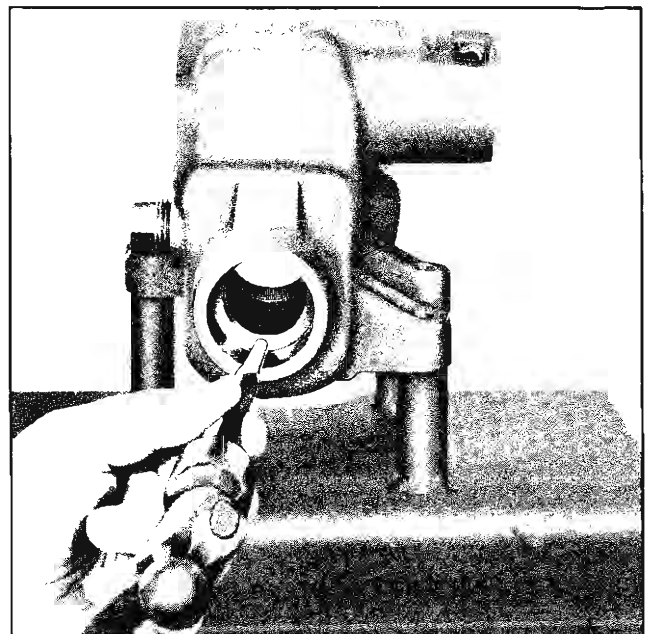

Fig. 9-24 Removing Upper Bearing Cup
2. Remove upper bearing cup with punch (Fig. 9-24).